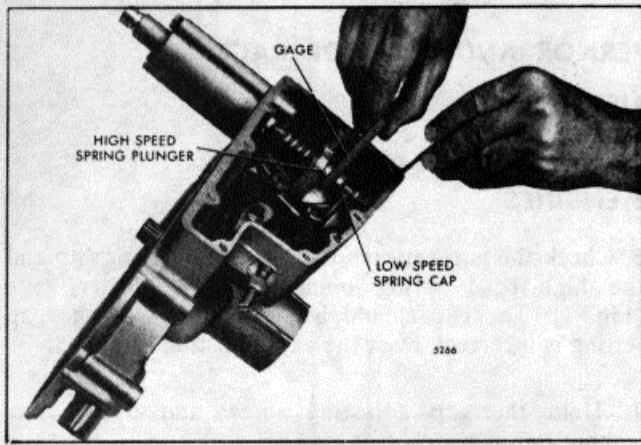

Fig. 2. - Adjusting Governor Gap - Single Weight
6. Check the gap between the low-speed spring cap and the high-speed spring plunger with gage J 23478 (.200") - (Fig. 2).